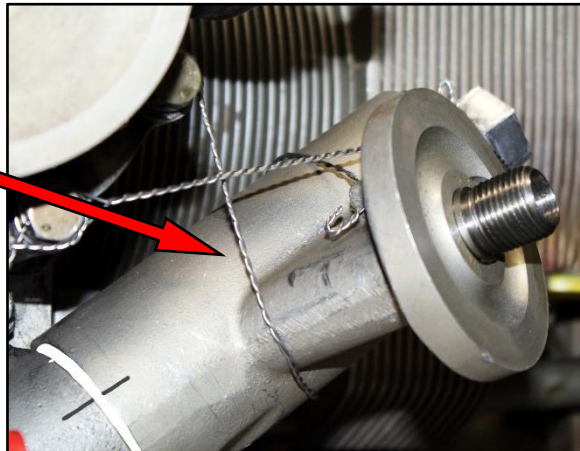

Figure 4
- d. If there is no safety-wire securing the sleeve itself against rotation, install safety-wire such that the wire will prevent the sleeve from rotating in a counter-clockwise (loosening) direction, see Figure 4. Secure the safety-wire to a suitable location **on the engine**. Do not secure any safety-wire from the adapter to the airframe.